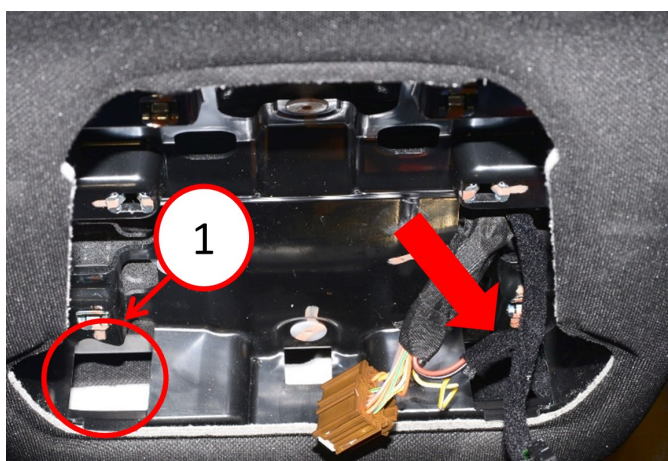

Fig. 7
21. Insert the dome lamp wire harness with jumper wire harness, into the right side dome lamp assembly mounting square cavity Fig. 7.